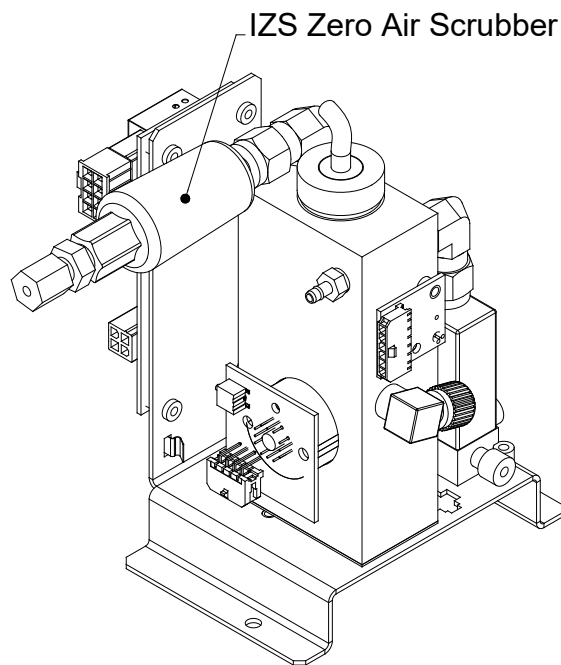

Figure 5-7. Replacing the IZS Zero Air Scrubber
3. Disconnect the white nylon ¼"-1/8" fitting from the Zero Air Scrubber (See Figure 5-7).